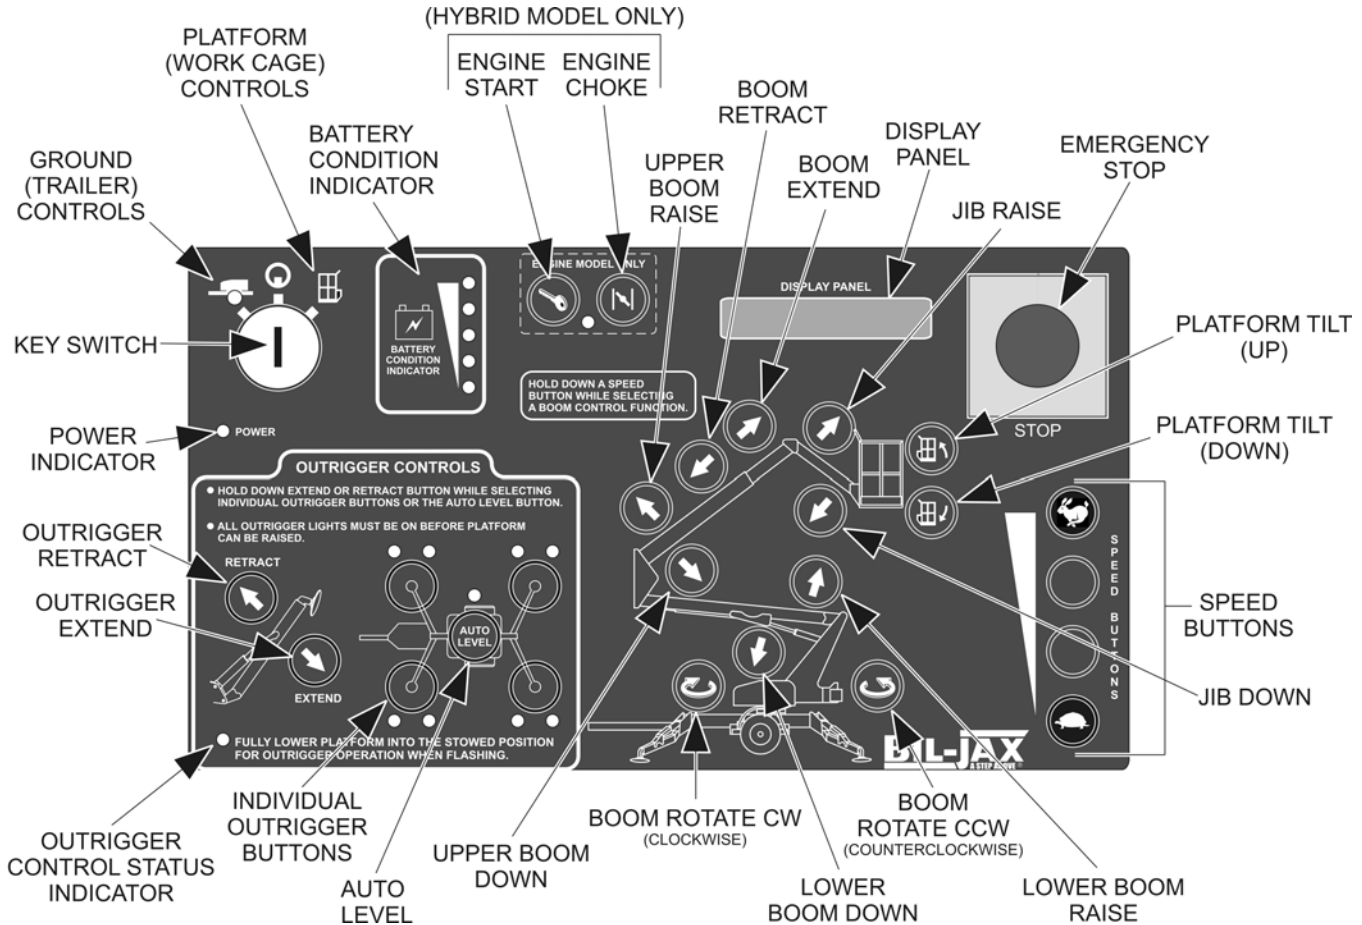
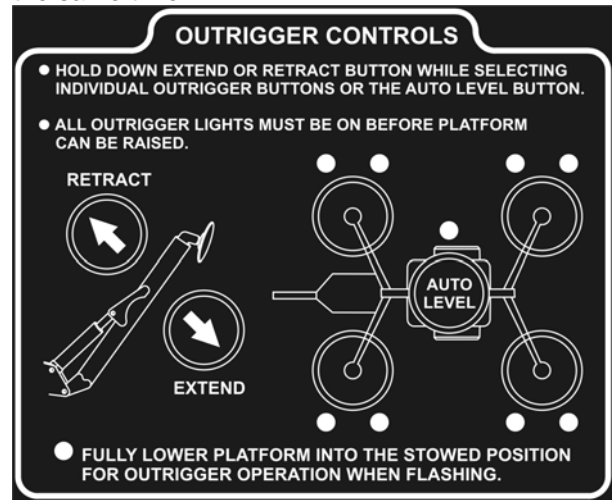

Figure 3-1. Ground Control Station.
Figure 3-3. Outrigger Controls
The ground control station includes the following controls and Indicators. Refer to Figure 3-1 for control locations.
- ❑ Verify that the control status indicator LED is lit. If the control status indicator LED is not lit or is flashing, the outrigger buttons will not work. A flashing control status LED indicates that one or more of the booms is raised and needs to be stowed. Refer to Figure 3-1 and Figure 3-3.